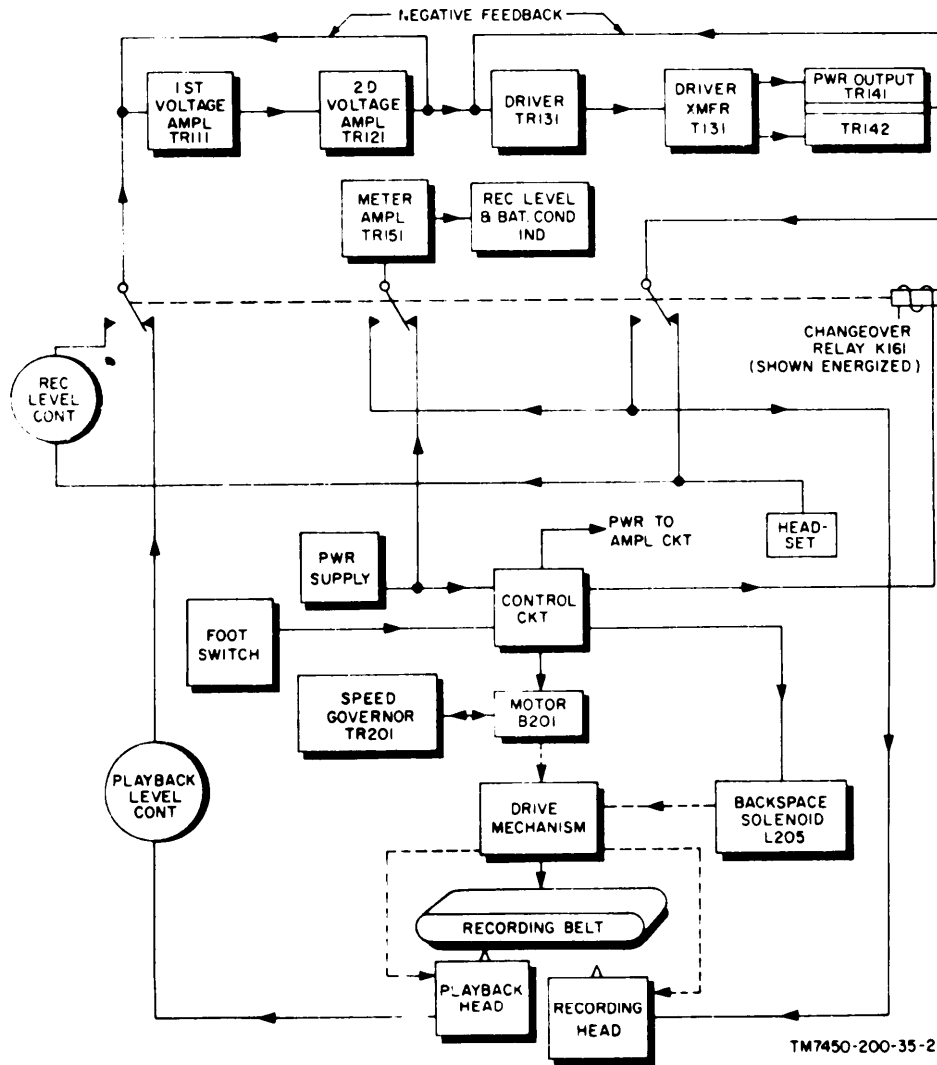

Figure 2. Shunt method of calibration, using incoming rf signal.
a. *General.* The signal path for calibrating the test set by the shunt method of calibration is shown in figure 1. Basically, a self-contained impulse generator is used as a calibrating signal to produce a full-scale meter indication. The setting of six-step signal attenuator AT702 control determines the amount of rf and intermediate frequency (if.) attenuation inserted into the signal path. After the meter is calibrated for a full-scale meter indication, the impulse generator is deenergized. The magnitude of the rf signal under measurement (fig. 2) is then directly read from the meter scale.. taking into account the setting of the six-step signal attenuator control. The following subparagraphs, based on placing the main unit calibration switch in the SHUNT CAL position, give a brief functional description of the calibrating signal path.
- (1) *Repetition rate generator and driver V703.* Repetition rate generator V703A is a resistance-capacitance type oscillator which produces a fixed output of approximately 70 cycles per second (cps). This output, increased in amplitude by impulse generator driver stage V703B, is fed to impulse generator G701.
- (2) *Impulse generator G701.* The impulse generator produces a broadband signal by the transient discharge of a direct-current (dc) voltage on a short length of coaxial line, working into a 50-ohm impedance load. A mercury switch, operated by impulse generator driver stage V703B, opens and closes the coaxial line pulse-forming circuit.
- (1) *Coaxial relay K702.* With this relay in its energized condition, the output of the impulse generator is coupled through a set of relay contacts to 20-db fixed attenuator AT701.
- (2) *Fixed attenuator AT701, 20-db.* This fixed attenuator, coaxial in structure, attenuates the signal from the impulse generator by 20-db and couples the signal to de-energized coaxial relay K701. With this 20-db fixed attenuator in the calibrating signal path, the output of the impulse generator agrees with the engraved numerals on the front-panel coarse and fine impulse generator controls.
- (3) *Coaxial relay K701.* With this relay in its deenergized condition, the output of 20-db fixed attenuator AT701 is coupled through one set of relay contacts to six-step signal attenuator AT702.
- (4) *Six-step signal attenuator AT702.* This cartridge-type attenuator has a flat response to the complete frequency range of the test set, from 150 kc to 1,000 mc. Six steps of attenuation are provided by the use of coaxial networks, which result in a low-voltage standing wave ratio (swr) at any input frequency. Each attenuator section is a resistive T-pad, in which the series elements are rod resistors, and the shunt element is a disk-type resistor. The geometry of the inner and outer conductors of each attenuator section produces a 50-ohm line impedance at the input and output of each network. Two settings of the six-step signal attenuator control provide zero attenuation of the calibrating signal. The four remaining settings provide 10-, 20-, 40-, or 60-db loss in the rf signal path; additional attenuation of 10 or 20-db is inserted into the if. signal path (fig. 2). This loss is introduced by operation of relays in the if. step attenuator, which are controlled by
4. Shunt Method of Calibration Using Incoming Rf Signal (fig. 2)
Figure 2 is a block diagram which shows detailed operation of the equipment after the meter has been calibrated to produce a full-scale deflection by using the output of the impulse generator as a calibrating signal source. Setting the front-panel calibration switch to the SERIES CAL& OPER-ATE position changes the circuit connections from those described in paragraph 3.
- (1) The calibrating signal voltage from impulse generator G701 has a path of continuity through coaxial relay K702 to the input of 20-db fixed attenuator AT701. The calibrating signal is decreased in amplitude by a ratio of 10 to 1 (20-db), and is applied through coaxial relay K701 to the input of six-step signal attenuator AT702.
- (2) The incoming rf signal applied to SIGNAL INPUT jack J705 (fig. 2) is effectively removed from the input to the test set. Therefore, no incoming signal from the antenna or coupler can affect the meter indication when the test set is being calibrated by the shunt method.
b. *Series Calibration and Operate Condition* (fig. 2 and 3). The following two circuit conditions exist with the calibration switch set at the SERIES CAL & OPERATE position.
- (1) An incoming signal, applied from the antenna or coupler through SIGNAL INPUT jack J705, has a path of continuity through coaxial relay K701 to six-step signal attenuator AT702.
Figure 4 shows the threefold functioning of the six-step SIGNAL ATTENUATOR DB control. This block diagram is based on placing the front-panel calibration switch in the SERIES CAL & OPERATE position (fig. 2). The s h a f t of the front-panel SIGNAL ATTENUATOR DB control drives three separate switches, which operate circuits as described below: